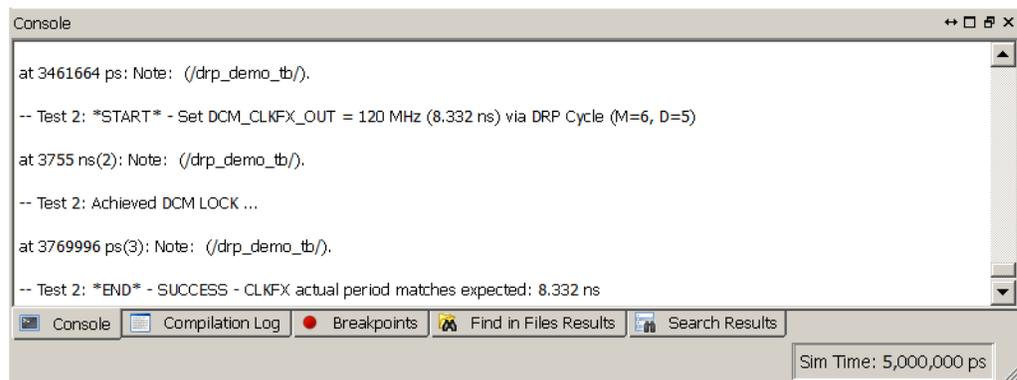

Figure 4-12: Console Panel
4. There are assertions from the test bench during the time of simulation. Review the Console panel for messages from the test bench (Refer to Figure 4-12).